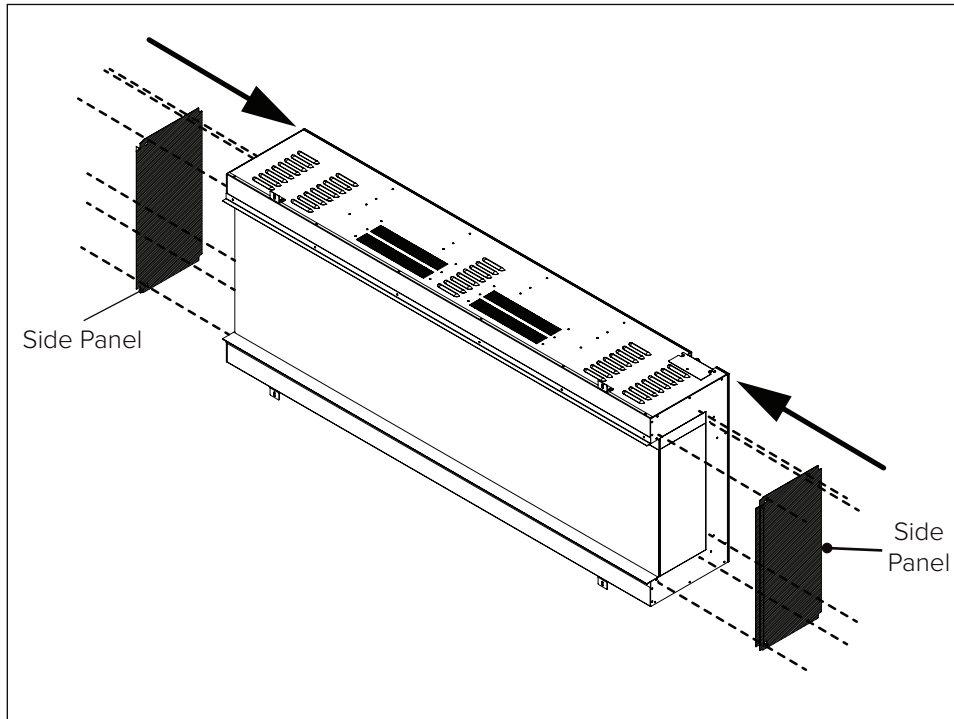

Fig. 6
1. Re-secure both side panels using the 12 screws previously removed (**Fig. 6**).